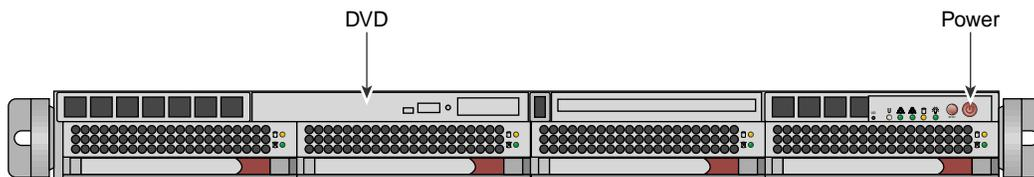

Figure 1-2 System Management Node Power On Button and DVD Drive
1. Turn on, reset, or reboot the SMN. The power on button is on the right of the SMN, as shown in Figure 1-2 on page 3.
2. Insert the SLES 11 Service Pack 1 DVD in the DVD drive on the left of the SMN as shown in Figure 1-2 on page 3.